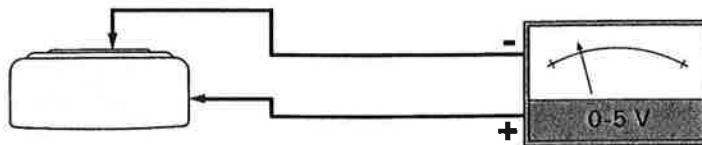

Fig. 7
- 3.6. Check its voltage which must be at least 1.55 volt (Fig. 7).